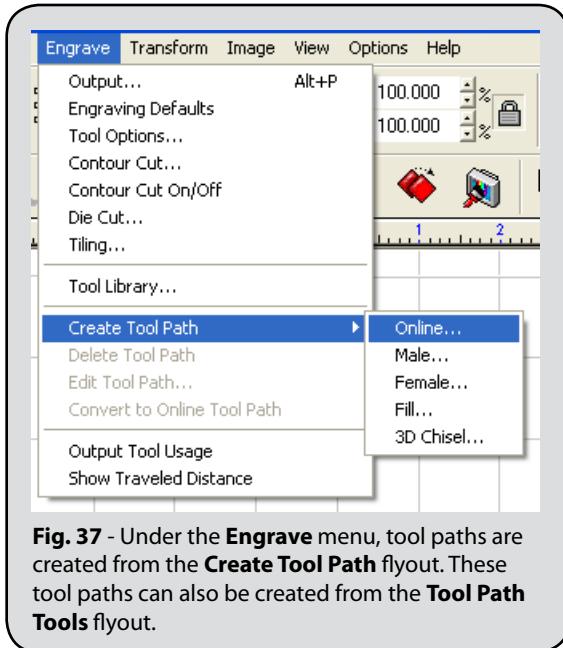

Fig. 37 - Under the **Engrave** menu, tool paths are created from the **Create Tool Path** flyout. These tool paths can also be created from the **Tool Path Tools** flyout.
3. Select the text shape, and then create an **Online** tool path from the **Engrave** menu (Fig. 37).